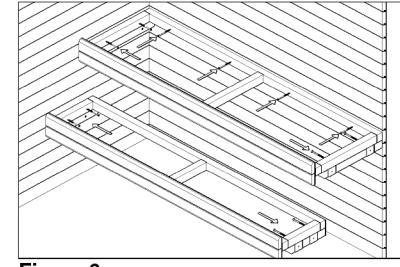

Figure 6
- Lift the upper and lower bench onto support details. Fix the benches to the walls with all screws included in the kit. Also fix the back side of the bench frame to the wall. Use 5x100 mm screws. (Figure 6)